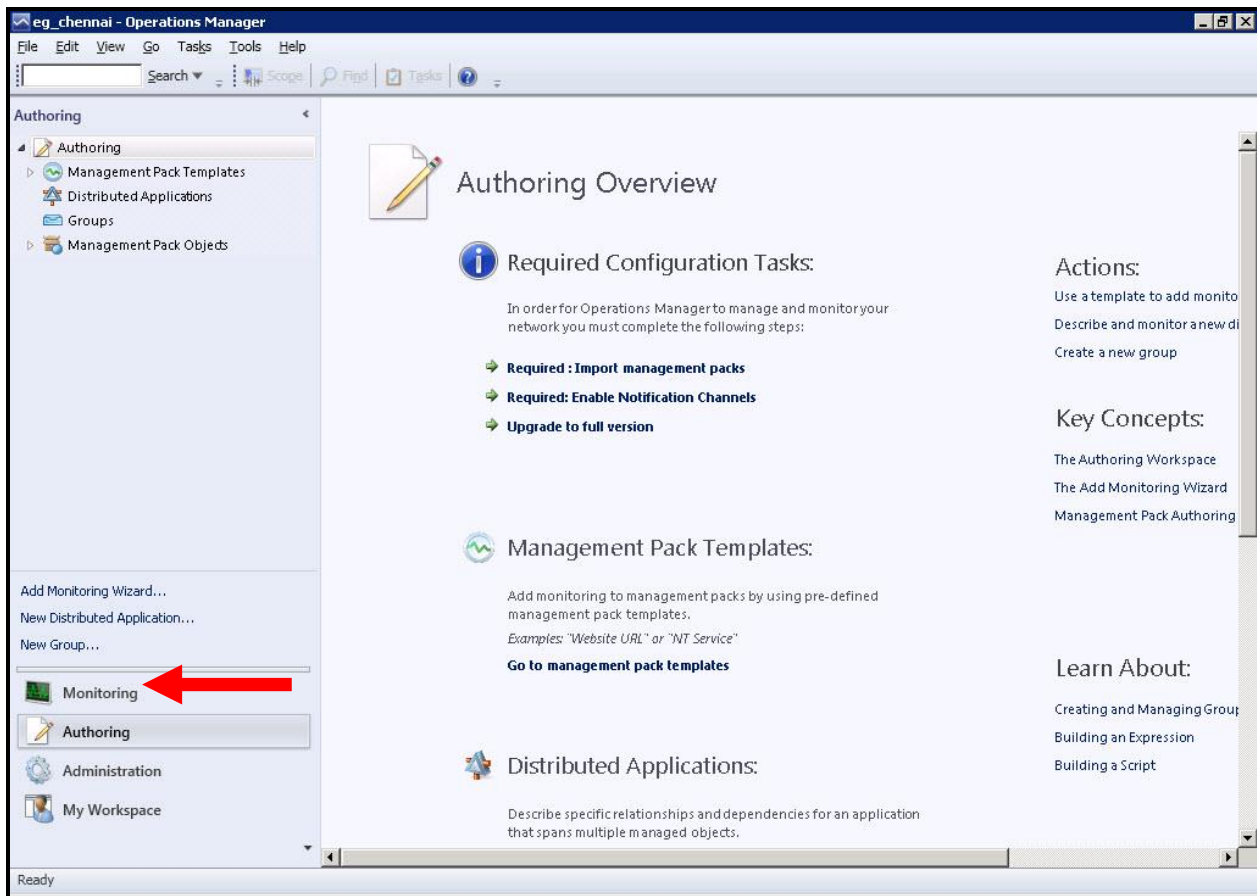

Figure 2.14: Clicking on the Authoring tab
1. Login to the SCOM console and click the **Authoring** tab indicated by Figure 2.14 below: